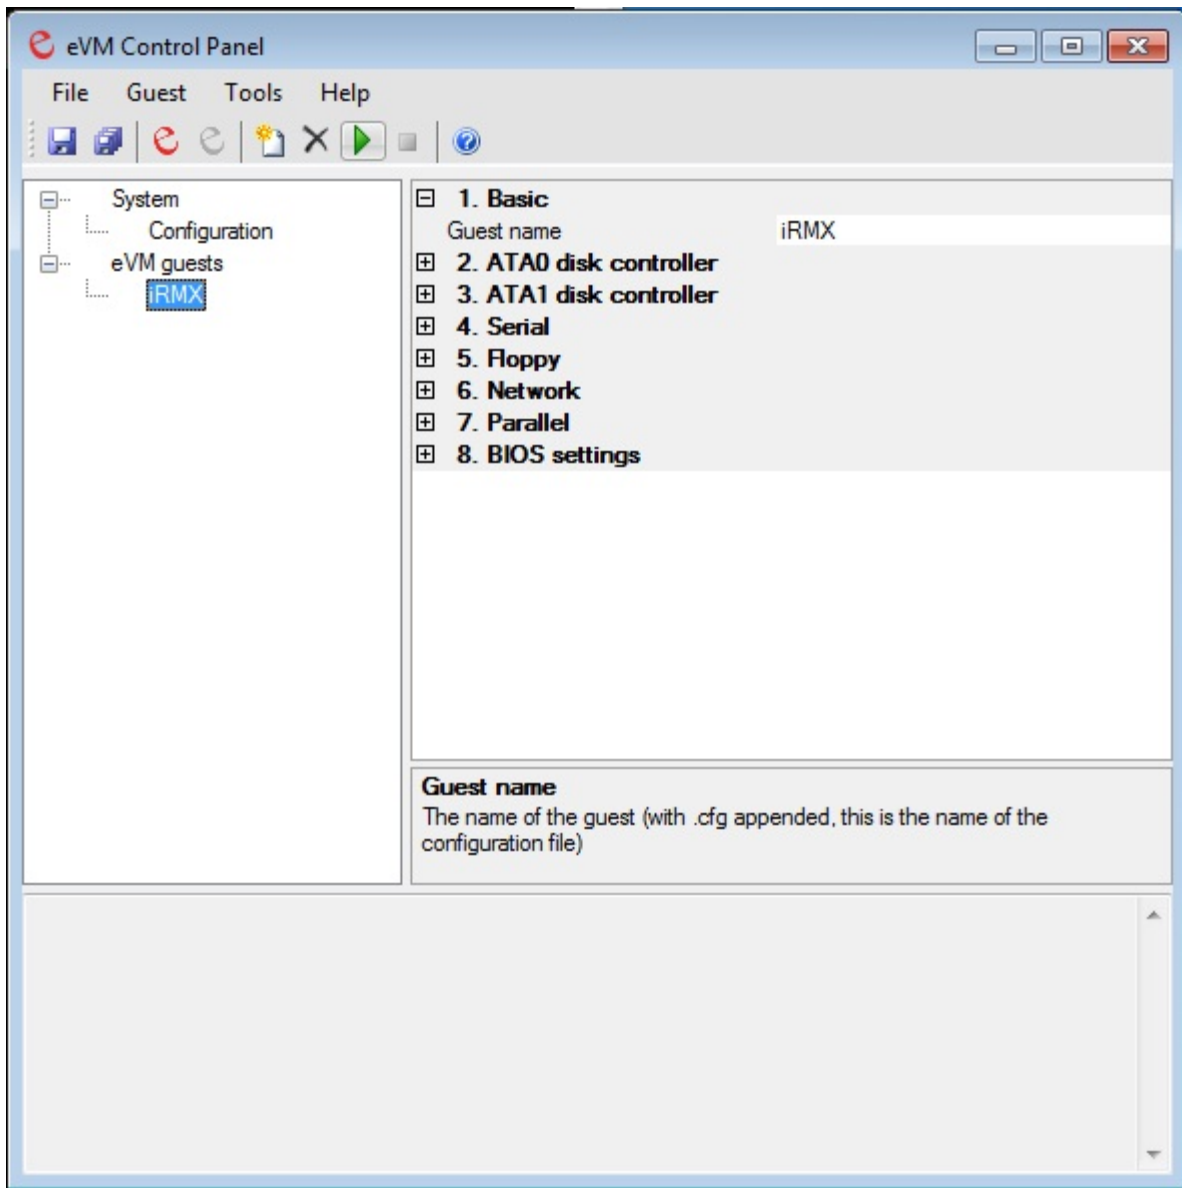

Figure 4.34 - eVM Control Panel, Selecting the Guest OS
2. Open **eVM Control Panel** and select **iRMX** under eVM guests, Figure 4.34.